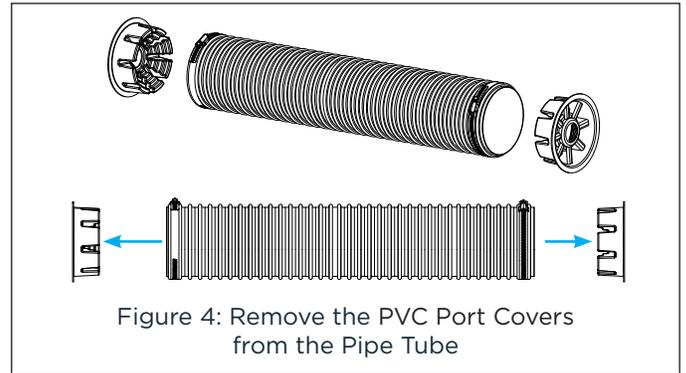

Figure 4: Remove the PVC Port Covers from the Pipe Tube
19. Remove the PVC port covers from both ends of the pipe tube (see Figure 4).